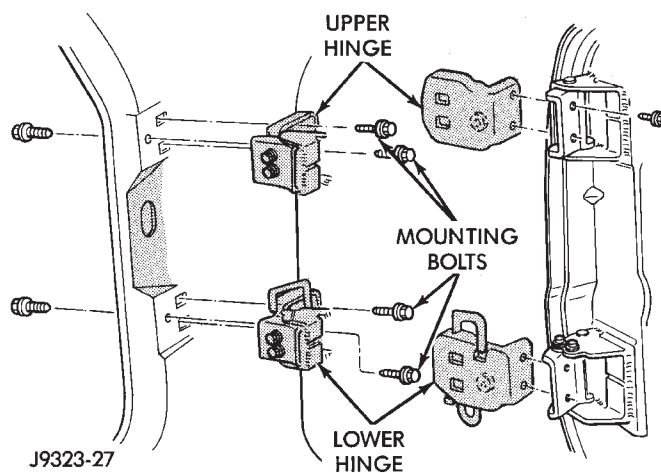

Fig. 5 Door Hinges and Bolts
- (1) For vehicles equipped with power windows and locks, remove door trim panel. Disconnect power window regulator, power door lock motor and all other wire harness connectors. Slide wire harness out of boot and door.
- (2) Mark an outline around door hinges for installation alignment reference.
- (3) Remove door hinge covers, retaining bolts, plates and shims (Fig. 5). Remove door from vehicle.
- (4) Identify and retain door hinge plates and shims for correct installation (Fig. 5).
- (5) If a replacement front door is being installed, coat door interior with anti-corrosion wax. Also, seal door hem flange with sealant.
- (6) Before installing a replacement door, transfer original hardware. If necessary, refer to applicable procedures.
- (7) Position door in body opening.
- (8) Align door hinges, plates and shims with bolt holes. Install (but do not tighten) hinge bolts, install hinge covers (Fig. 5).
- (9) Adjust door to reference marks. If necessary, refer to adjustment procedure. Tighten hinge bolts to 35 N•m (26 ft-lbs) torque.
- (10) Adjust latch striker as necessary.
- (11) If applicable, route and connect harness connectors to door and vehicle body wire harness connectors.
- (12) Install door waterdam (if removed), trim panel, armrest and window glass regulator handle. If necessary, refer to trim panel installation procedure.